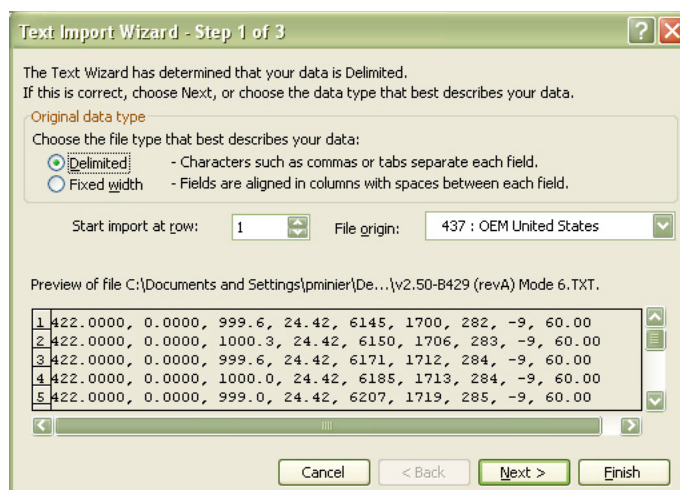
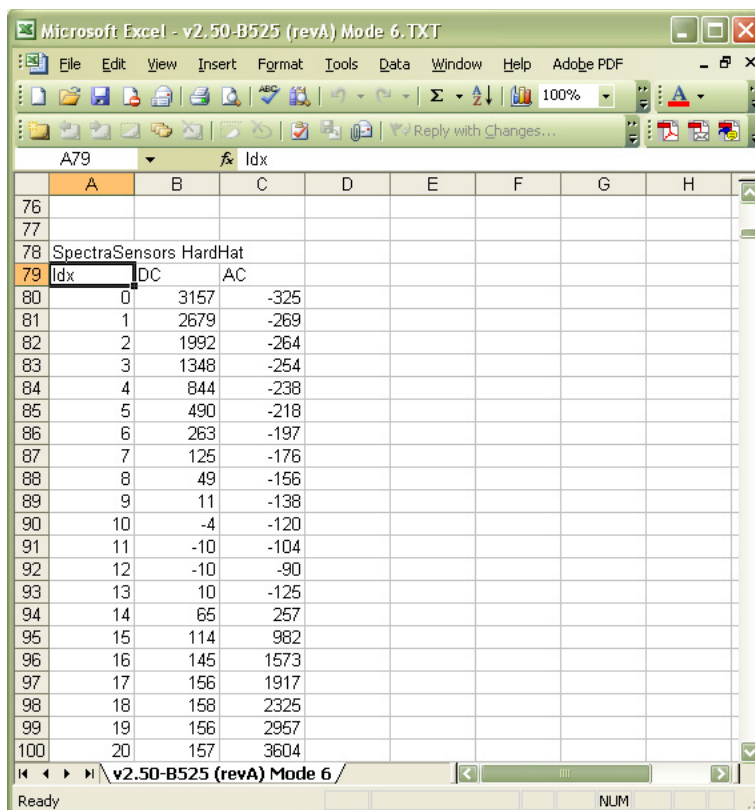

Figure 10. *Setting data type in Text Import Wizard*
Figure 12. Highlighting imported data for plotting in Excel
2. The **Text Import Wizard** should open. Choose the **Delimited** option and click **Next**, as shown in Figure 10.
3. Under **Delimiters**, choose the **Tab** and **Comma** options, check the **Treat Consecutive Delimiters as One** box, as shown in Figure 10, and then click **Finish** to display the spreadsheet. The first few lines look like the normal serial output data received before the **Mode 6** command was entered. Look for the three columns of numbers at the bottom of the file, as shown in Figure 12.